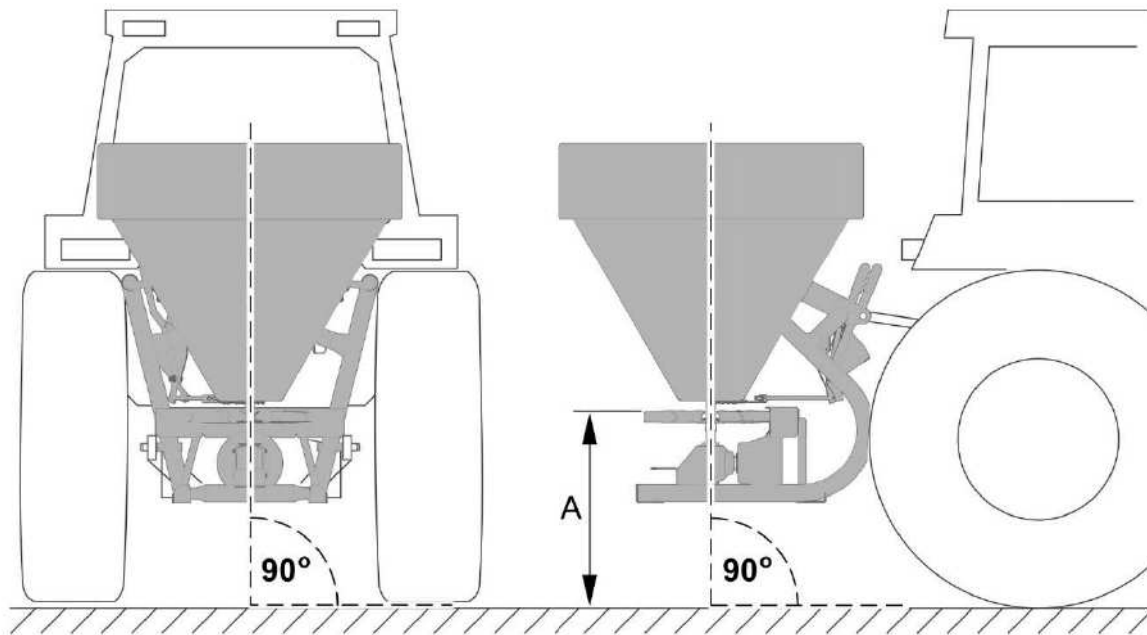

FIG. 4.3 Levelling the machine
For optimum operation, position the fertilizer spreader body (FIG. 4.3) in such a manner as to ensure that the rotation axis of the spreading disc is set at an angle of 90° to ground surface. Longitudinal inclination is set by changing the central link length while transverse inclination is set by changing the length of tractor lower arm hanging rod.
Working height (A) should be set in such a manner as to ensure that the distance between the spreading disc and the ground does not exceed 850 mm (FIG. 4.3).